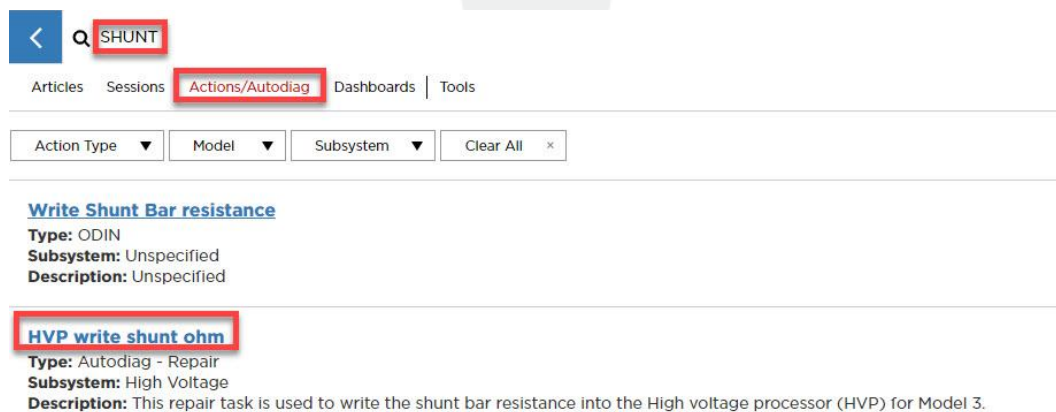

Figure 3
8. Select the **Actions/Autodiag** tab, type “shunt” into the search field, and click **HVP write shunt ohm** (Figure 3).